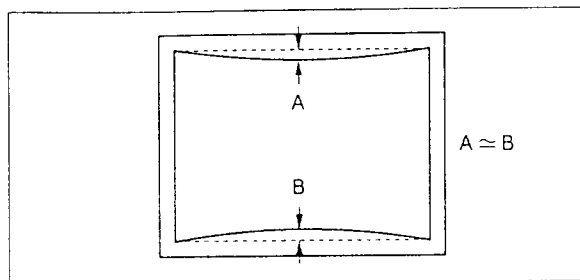

Fig. 6-3-9
- 7) Tighten the setscrew of deflection yoke, input a white cross - hatch signal, swing the deflection yoke up and down, then fasten the deflection yoke with the deflection yoke spacers at a position where the top and bottom pin cushion distortions are about the same (as shown in Fig. 6-3-9).